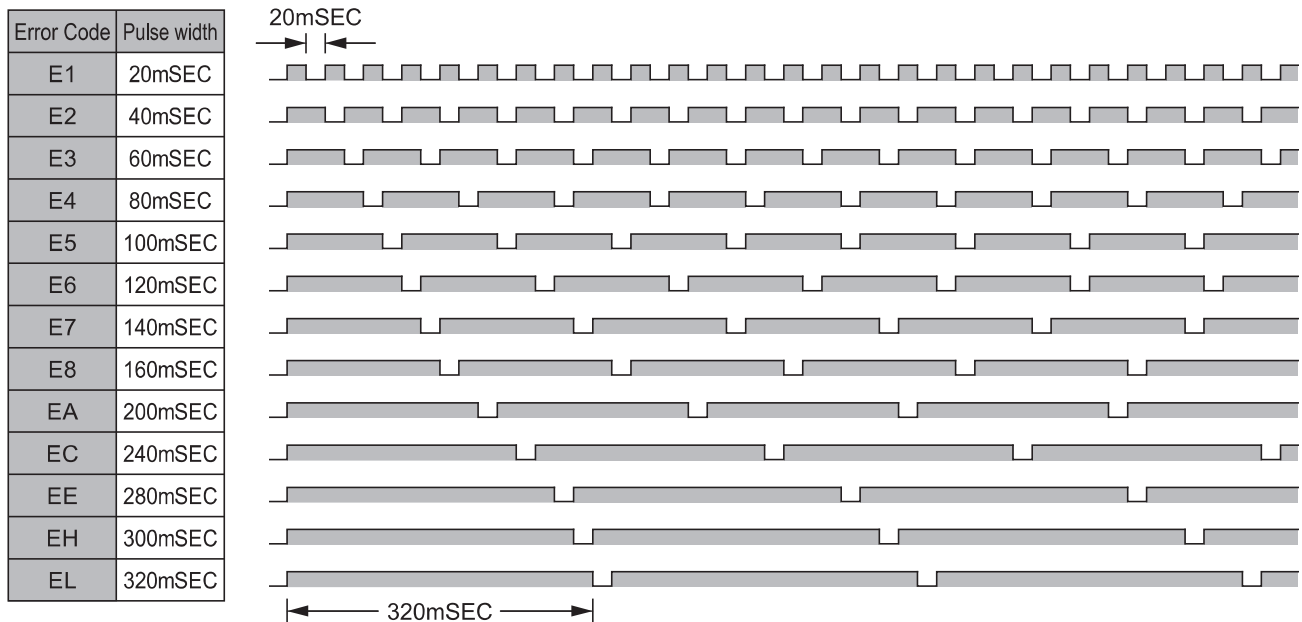
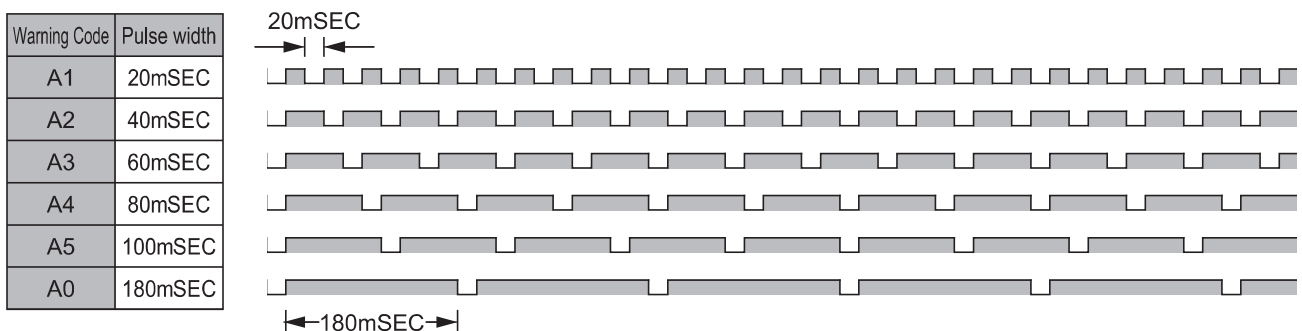

Fig. 34
Fig. 35
cd If an error / warning occurs during selection, a signal with the error / warning code patterned as shown below is output. When an error occurs, an error signal is output to the external Input / Output Connector A ③ (terminal No. 8: ERR). (Refer to Fig. 34.) When a warning occurs, a warning signal is output to the external Input / Output Connector A ③ (terminal No. 20: WARNING). (Refer to Fig. 35.) The signal when no error / warning has occurred is OFF (open).